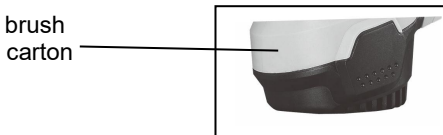

Fig 8
The carbon brush can be removed by removing the cap cover (9), cap rubber and brush cap in that order at the interior (See Fig 8)